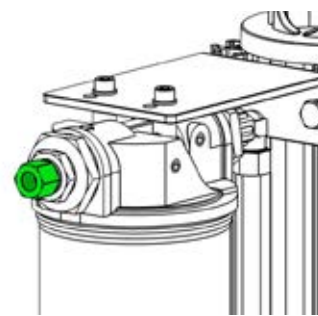

Fig. 13
**i** Always connect inlet hose to the integrated pressure compensated flow control valve (fig. 13). This valve bleeds oil from the main hydraulic systems. Oil flows through the filter before returning back to the oil reservoir.